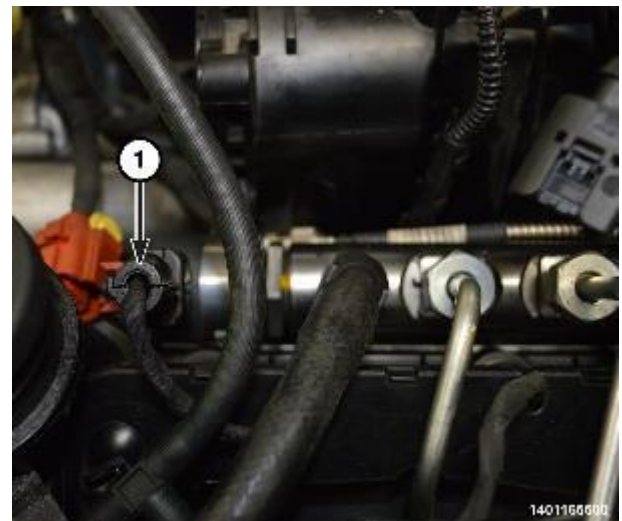

Figure 122 – Fuel Pressure Regulator Connector (Left Rail)
- 59. Disconnect the fuel pressure regulator wire harness connector (1) on the LEFT rail (Figure 122).